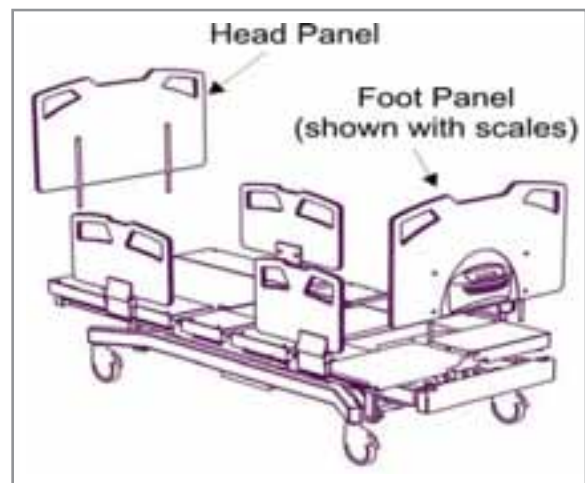
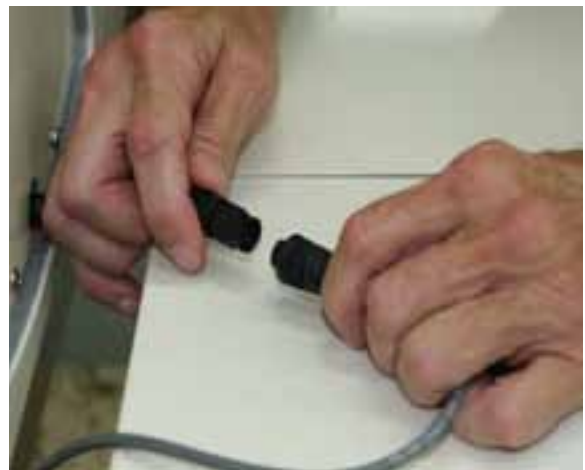

Figure 1
Figure 2
1. Insert Head and Foot Panel support rods into their respective receptacles in the frame (Figure 1). **Note:** Scale System Display located on outside of Foot Panel must face away from bed (Figure 1).
2. Connect Scale System quick-release electrical connector from the bed to Foot Panel rear bottom fixed connector (Figure 2). **Note:** This is a quarter-turn fastener. Check to insure it is firmly secured.
1. Head/Foot Panels remove easily. Replace by simply lifting straight up or pushing straight down (Figure 1). **Caution: Disconnect** Foot Panel Scale System Cable before removing Foot Panel (Figure 2).